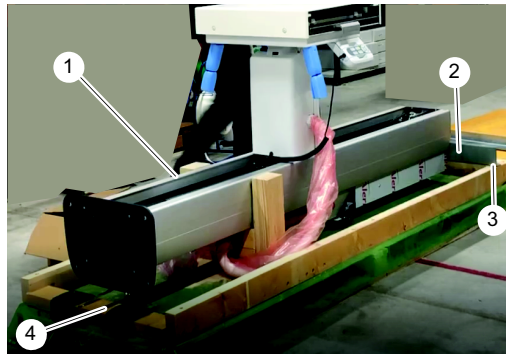

Fig. 4-42 Remove packaging
9. Remove the mounting band (4), see **Fig. 4-42** at the foot end (5).
10. Remove the mounting beam (2).
11. Fasten the two screws (7) again when the mounting beam (2) has been removed.